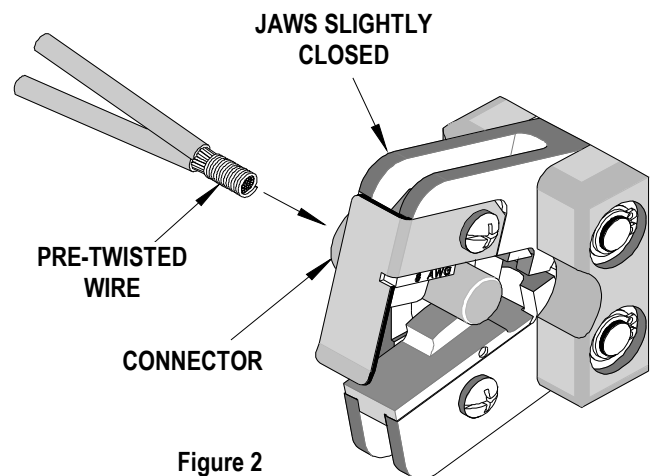

Figure 2
2. Place pre-twisted wire into closed-end connector, and then press lever on air tool. See Figure 2 and 3. Release the lever after jaws have closed.